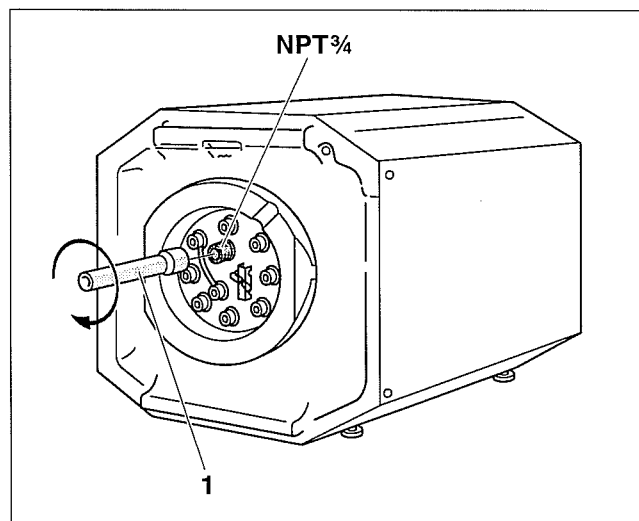

Fig. 6 Assembly of front carrying pipe stub
- Screw a $\frac{3}{4}$ " coupling on a pipe end (Fig. 6, **Item. 1**).